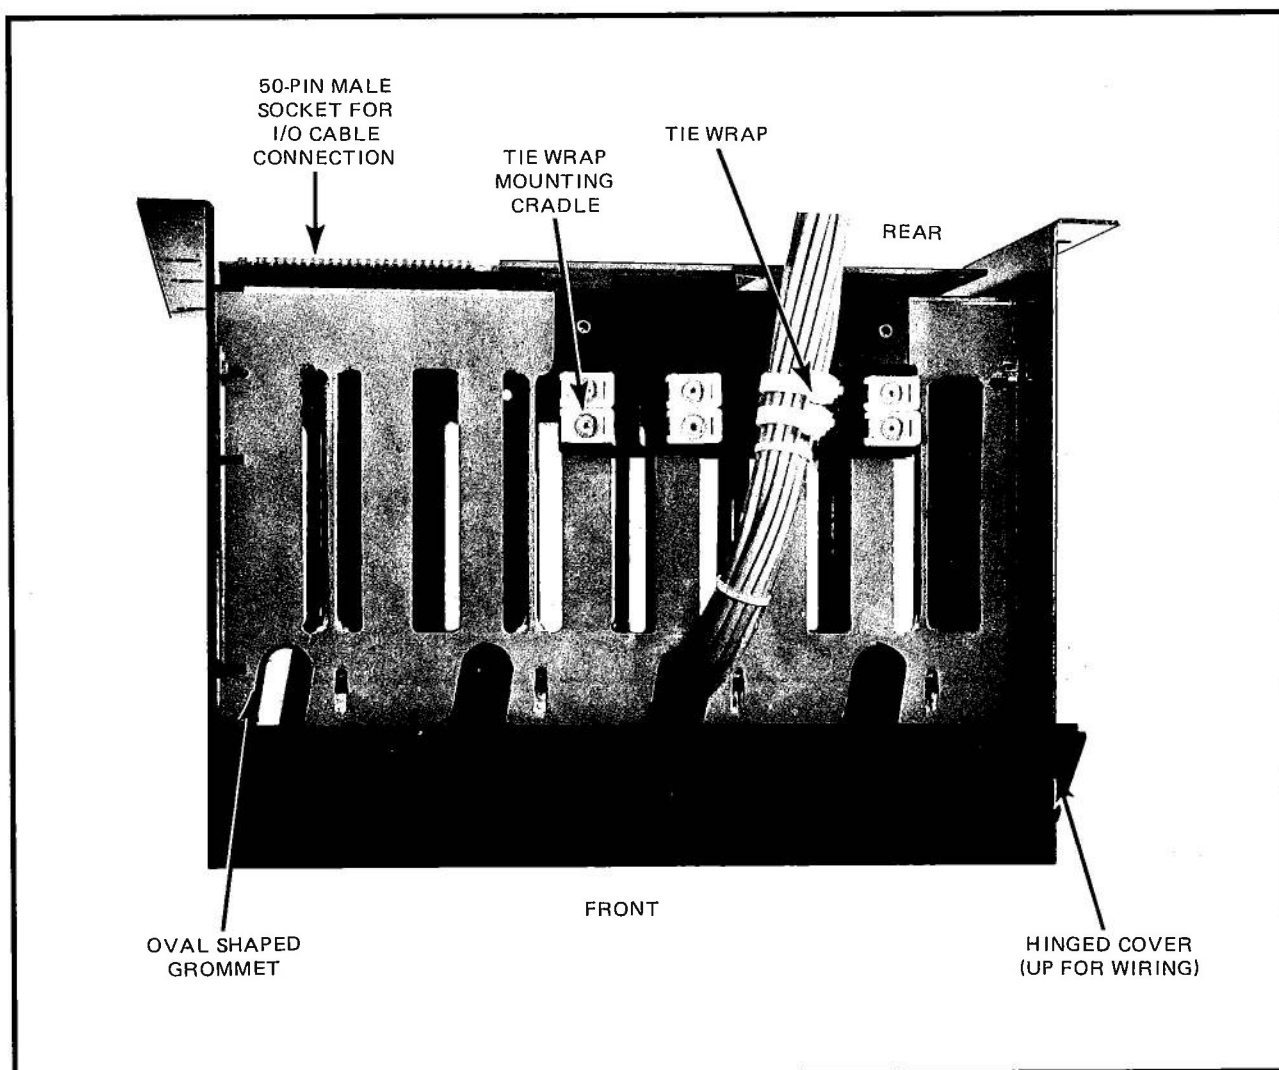

Figure 7-36. Horizontal Rack Field Wiring
1. Install the supplied tie wraps onto the mounting cradle at the top of the rack. Begin the loop, thereby permitting each cable to be run easily through the tie wrap loops. These tie wraps are to be tightened only when all wiring is complete and checked. These tie wraps are shown in Figure 7-36.
2. Draw individual field wires through the tie wrap loops and then through the oval-shaped grommet at the top of the rack, running each wire down into the raceway's wire guide. Begin with the conductor to be attached to the lowest terminal. See Figure 7-36.
11. Connect the incoming NLC-24HP or NLC-36HP I/O cable to the 50 pin male socket at the top of the rack (see Fig. 7-36).